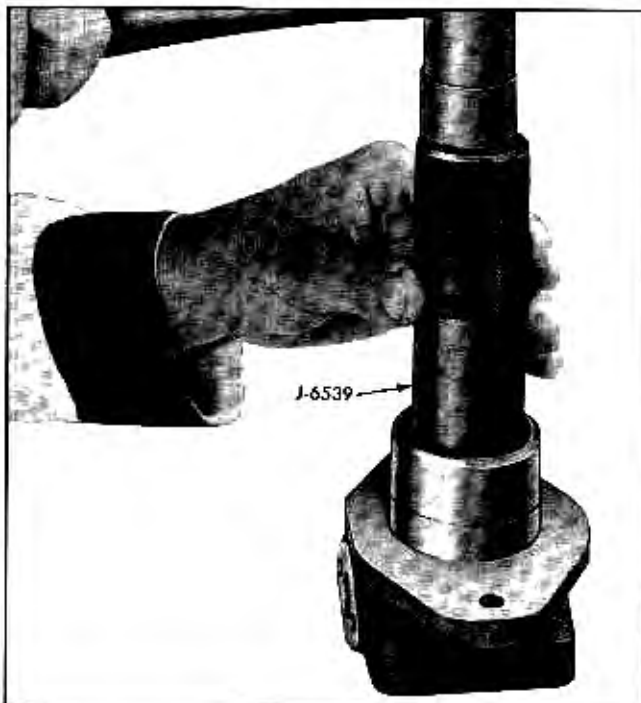

Fig. 9-81 Driving Shaft Seal into Pump Body
6. Install shaft seal in body using tool J-6539 (Fig. 9-81). Install seal with the word "outside" toward front of pump.